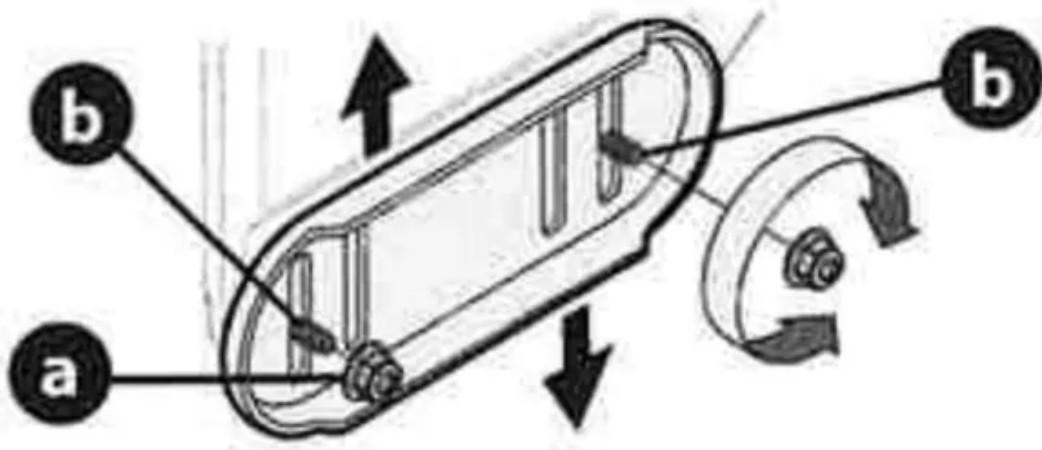

Figure 47
1. Loosen four hex nuts (a) (two on each side) and carriage bolts (b). Move skid shoes to desired position (Figure 47).